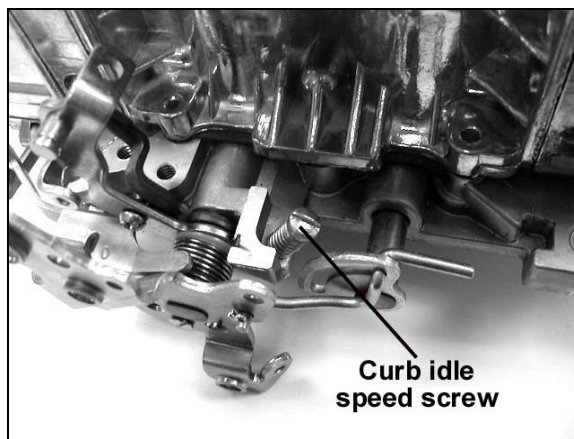

Figure 11
3. Now that the idle mixture is set, it may be necessary to go back and reset the idle speed using the curb idle speed screw, as shown in Figure 11.